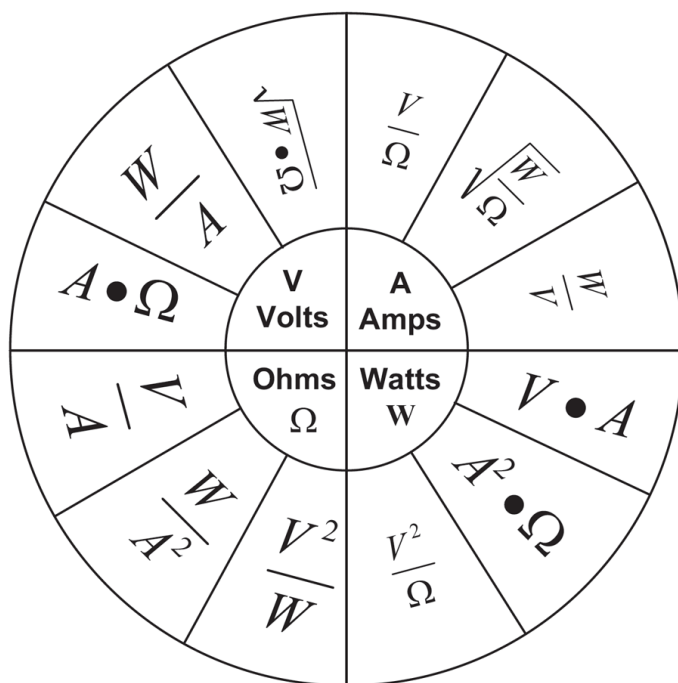

Figure 1: Ohm's Law pie chart
Ohm's law states that the amount of current flowing between two points in an electrical circuit is directly proportional to the voltage impressed across the two points and inversely proportion to the resistance between the points. Thus, the equation $I=E/R$ is the basic form of Ohm's law where the current I is in units of amperes (A), the Electro-motive Force (EMF) or difference of electrical potential E is in volts (V), and R is the circuit resistance given in ohms (Ω). Applying the standard equation relating electrical power to voltage and current ($P=V \cdot A$), cross multiplying and rearranging each of the variables results in the equations shown in the Ohm's law pie chart (see Fig 1) showing the various combinations of the four variables, I , V , Ω and W . Let's use Ohm's pie chart to determine the output voltage, current, and power of a $50\ \Omega$ amplifier operating under ideal conditions.